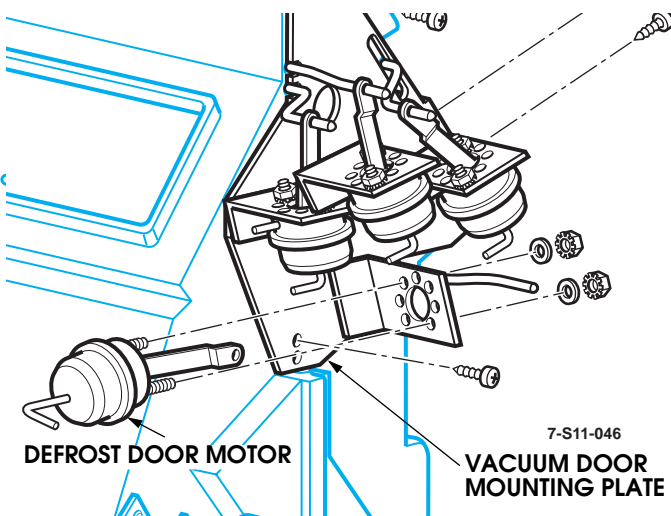

Figure 11-102: Vacuum Door Motor Mounting Plate
- Remove defrost motor from the bracket, note position of mounting studs in mounting plate (Figure 11-102).
- Remove screws securing vacuum motor mounting plate to main HVAC unit, and remove mounting plate. If the floor door travel limiting rivet was not removed, the door arm will prevent removal of the mounting plate by not aligning with the elongated slot (Figure 11-102).